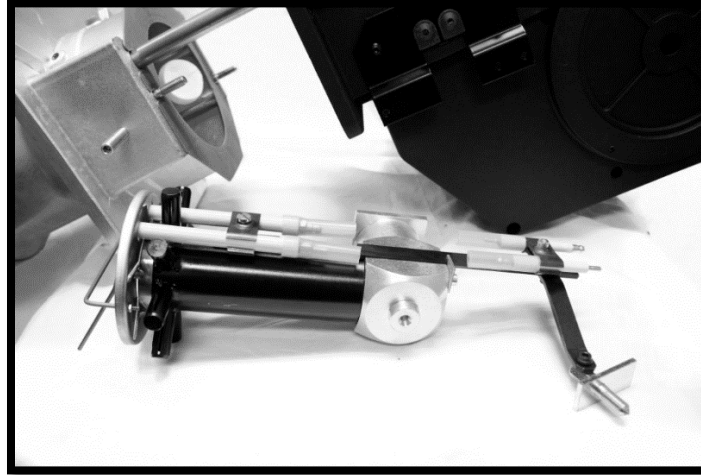

Figure 15
8. Pull the burner body straight back along the slides until you get a gap of approximately 8 inches. The burner head assembly can now be removed, see Figure 15.